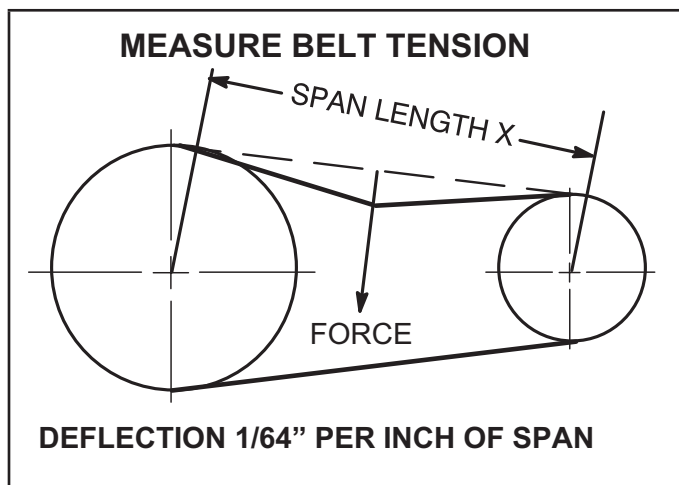

FIGURE 25
- 1 - Measure span length X. See FIGURE 25.
- 2 - Apply perpendicular force to center of span (X) with enough pressure to deflect belt $1/64$ " for every inch of span length.